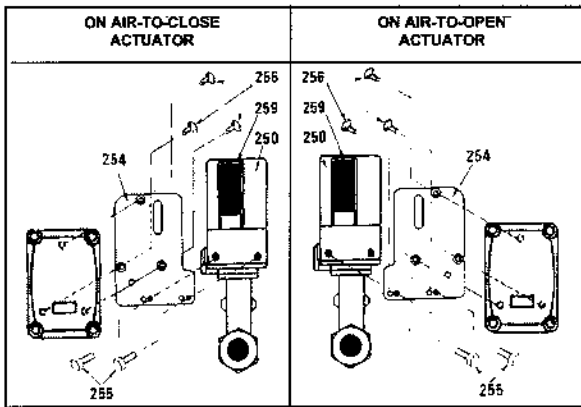

Figure C4 - Position of the support plate
The position of the support plate (254) as well as the choice of holes to be used for its fastening on the cam (screw 255) depend on the VariPak valve action (see figure C4).
- Fasten the case/support plate S/A to the valve with two cap screws (255) (see figure C4 in order to choose the proper introduction holes).